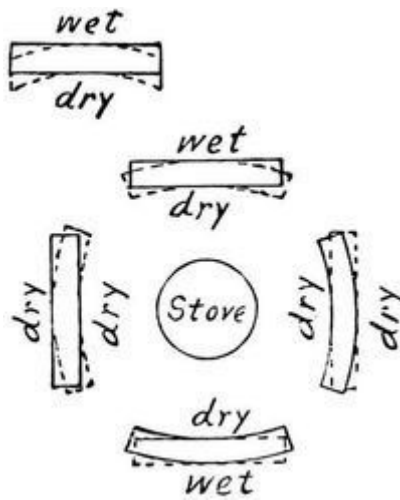

Fig. 687.
Warping, To course the simplest way to straighten a warped board is to put a weight on it, but the difficulty here is that it usually will stay straight only while the weight is on it, unless you leave it longer than the patience of the average amateur lasts. To do this (or to warp a straight board either) with some chance of success, (1) heat one side, or (2) wet one side, or (3) wet one side and heat the other, or (4) wet both sides and expose one to the fire (Fig. 687). But do not be too sure that the result will be lasting. Sometimes it will and sometimes not. Another way is to thoroughly soak the board, press it into shape between clamps or under a weight, and leave it until dry; a week or more is none too long, and boiling water is better than cold. Simply laying a board down on a flat surface will often cause it to warp, because the two sides of the board will be unequally exposed to the action of the atmosphere. Planing off one side only, or planing one side more than the other, often produces the same effect. See pages 50–53 and